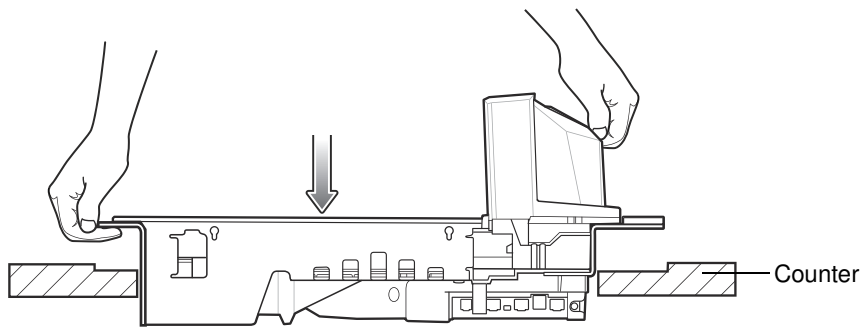

Figure 3-19 Lowering Short, Medium, Long MP70XX into the Counter
- a. To grasp the MP70XX to lower it into the checkstand, use the support handle on the back of the tower cover together with the front handle under the platter. See Figure 3-19 on page 3-18.